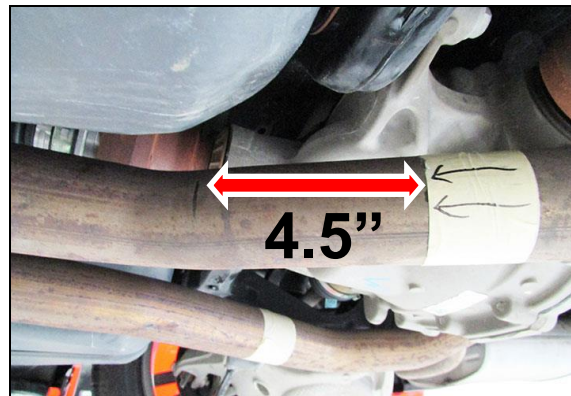

Figure 2
4. With a permanent marker, locate the tangent line (where the bend ends and the straight section of pipe begins) of the left side OE mid pipe and mark a straight line. Now, mark another straight line exactly 4.5" after your tangent mark (4.5" towards the direction of the rear of the vehicle). We suggest using masking tape to wrap around the OE mid pipe to ensure a straight cut. Draw arrows to ensure that you cut the correct side of the masking tape (**Figure 2**). **DOUBLE CHECK AND MEASURE TWICE BEFORE CUTTING.**